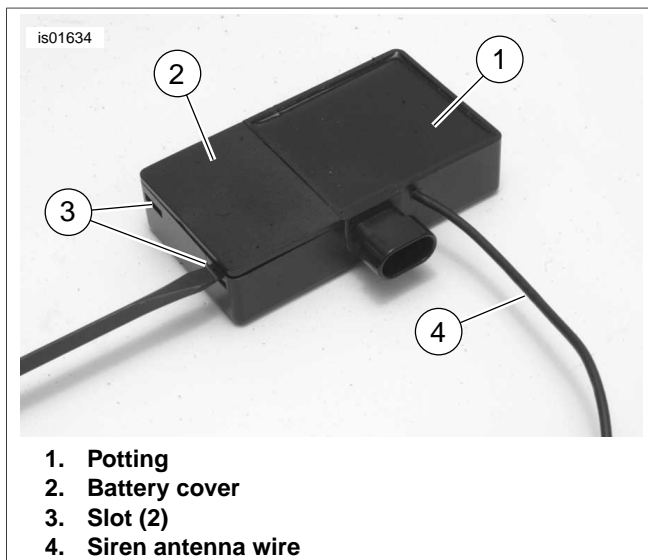

Figure 5. Insert Screwdriver Into Slots (Smart Siren II)
The Smart Siren II can be identified by the presence of a pager transmitter antenna wire (see Figure 5) next to the connector receptacle. The Smart Siren has no antenna wire.
1. See Figure 5. Remove the battery cover (2) from the siren box as follows:
- a. Place the siren on a sturdy, flat surface with the potting (1) and battery cover facing up.
- b. Insert a flat-blade screwdriver into one of the slots (3) on the side of the siren box. Press until one corner of the cover pops up slightly.